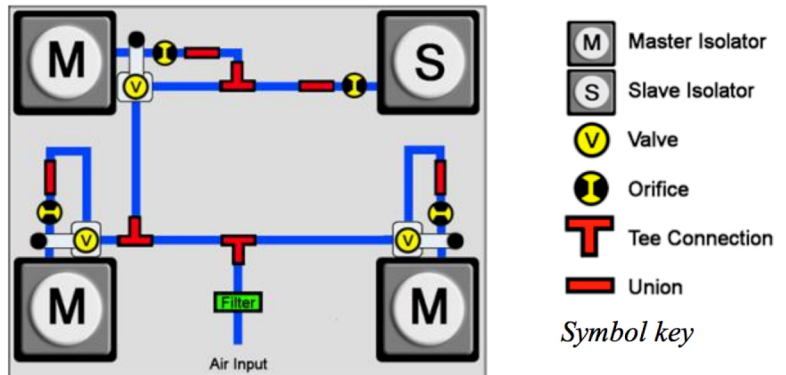

Figure 4, Typical valve schematic for a 4- isolator system
**Step 14** Locate the three height control valves mounted on isolators as typically shown in figure 4 & 5 earlier.